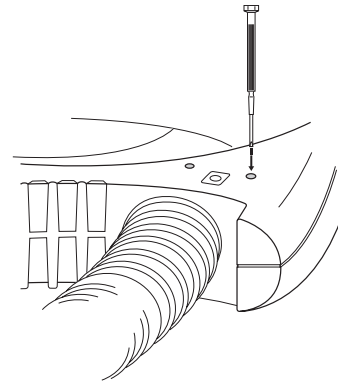

Figure 11.
6. With a small screwdriver continuously press the OT test button (see Figure 11) for the duration of the over-temperature test.\* When functioning properly, the “Over-Temp” indicator will illuminate and an audible alarm will sound. The peak test kit temperature will be below 56°C, and the heater will switch off within two minutes. If this does not occur, return the unit to Arizant Healthcare Inc. for service.